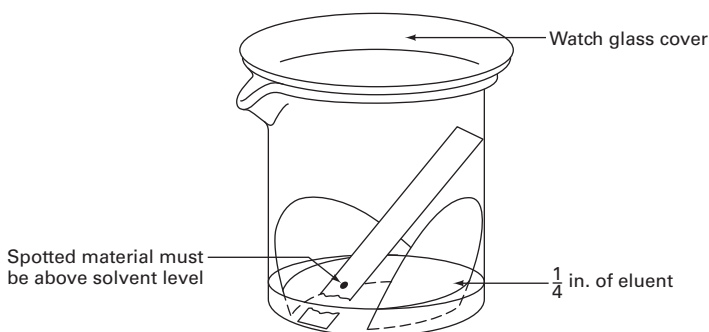

FIGURE 27.4 Prepared, spotted TLC plate in a prepared developing chamber. You can substitute a jar with a cap.
- Place the slide in the developing chamber as shown (Fig. 27.4). *Don't let the solvent in the beaker touch the spot on the plate*, or the spot will dissolve away into the solvent! If this happens, you'll need a new plate, and you'll have to clean the developing chamber as well.